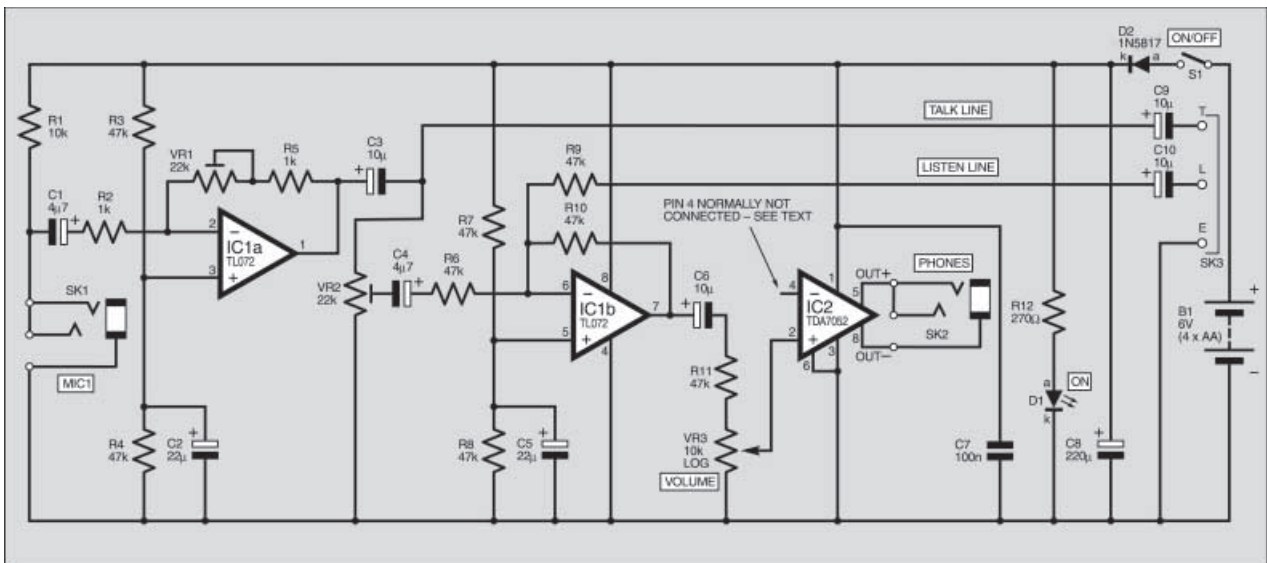

Fig.1. Circuit diagram for the Headset Communicator. This is the same for both the Master and each Slave unit.
The basic circuit for the Headset Communicator is shown in Fig.1 and this is the same for both Master and Slave units. Each unit may be considered as having one input and one output – the Listen (L) and Talk (T) lines respectively – plus a common “Earth”.